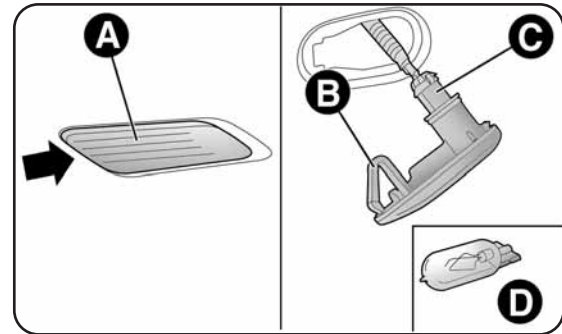

fig. 19
- work on lens A-fig. 19 to compress catch B, then pull the unit outwards;